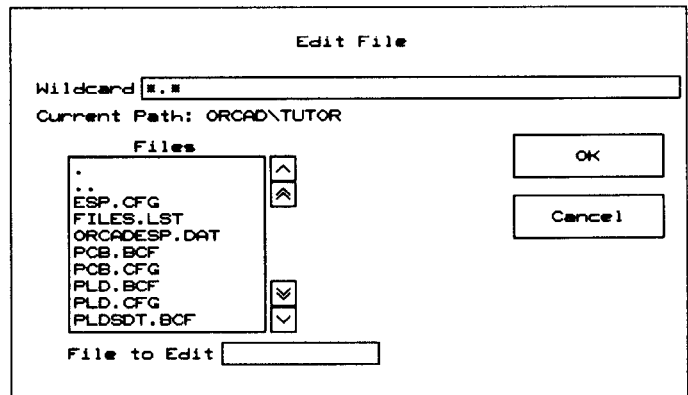

Figure 2-21. *Edit File* window.
1. Select **Edit File**. The window shown in figure 2-21 displays.